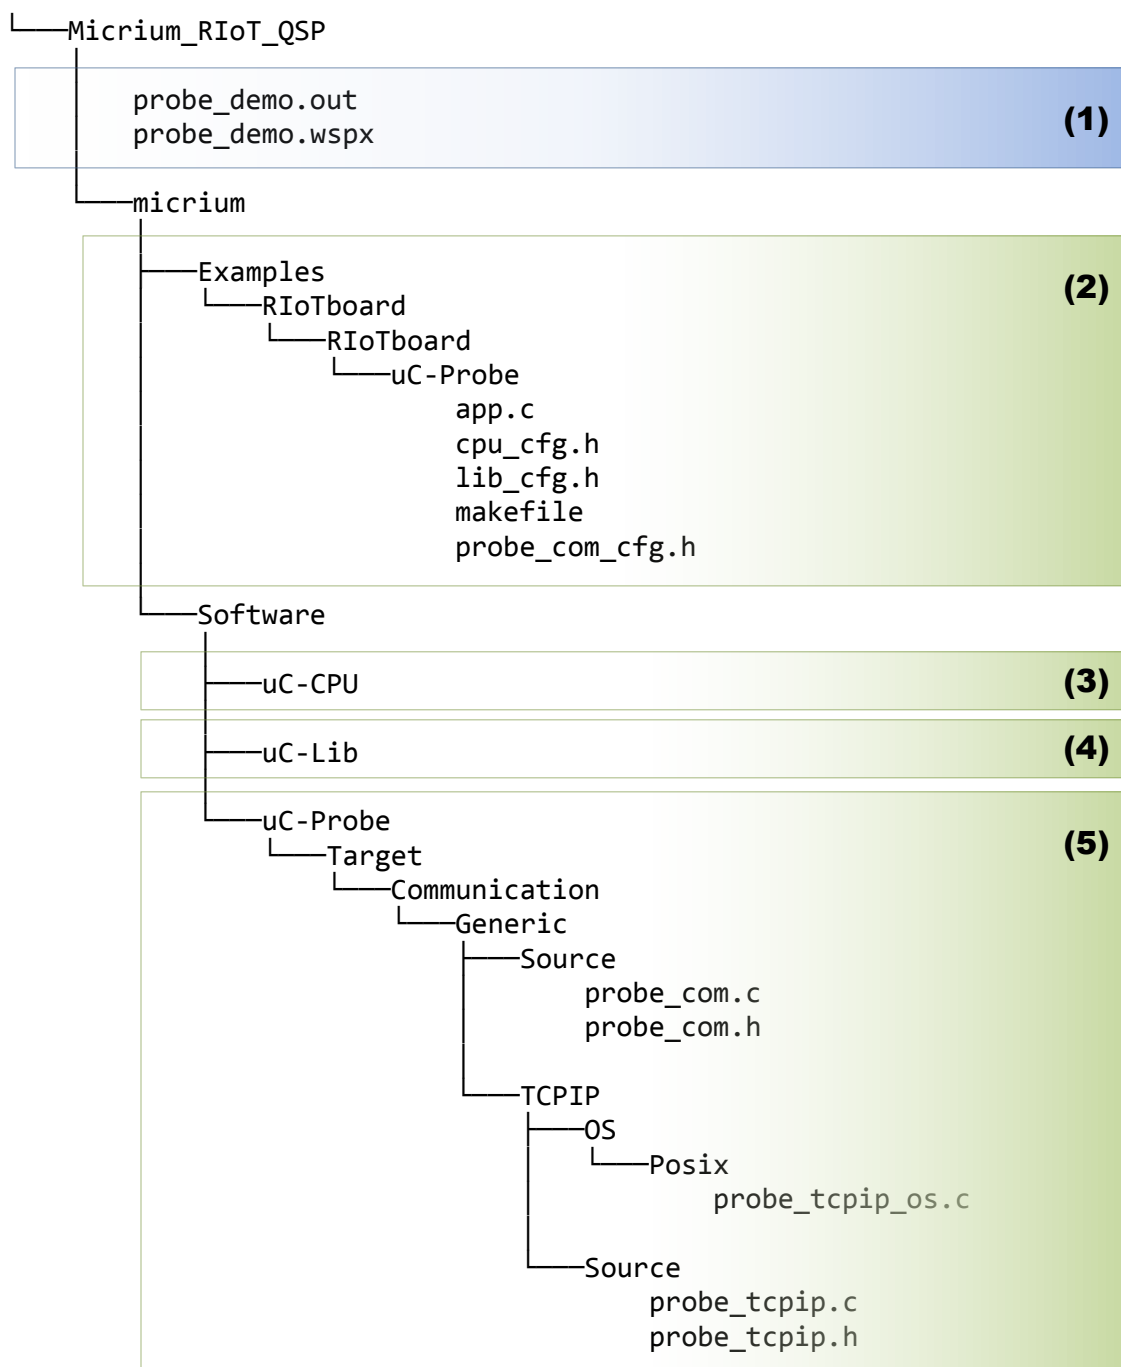

Figure 3-4: Micrium Quick Start Package Directory Structure
The contents of this zip file are illustrated in Figure 3-4, where the files surrounded by the *Blue* box are meant to be used in the host Windows PC, while the files surrounded by the *Green* boxes are meant to be used in the Linux side of the system (i.e. RIoTboard's file system).
For discussion purposes, we can separate the directory structure in 5 different categories as indicated in Figure 3-4.
The annotations at the bottom of Figure 3-4 will describe each group of files.
Figure 3-4(1): These files are meant to be used on the Windows PC side of the system by µC/Probe. They are the input files to µC/Probe and can be described as follows:
Figure 3-4(2): This folder contains the files that implement and make the example. The file ***app.c*** is the application-level example that demonstrates how easy it is to include a µC/Probe interface in your embedded Linux C project. The files with the suffix ***_cfg*** are for configuration purposes.
Figure 3-4(3): The µC/CPU module consists of files that encapsulate common CPU-specific functionality and CPU compiler-specific data types. Although there is no need to get familiar or edit any of these files they are still required to build the example.
Figure 3-4(4): The µC/Lib module consists of library functions meant to be highly portable and not tied to any specific compiler. It contains the source code of the functions used to manipulate ASCII strings, perform memory copies, and more. Similar to the µC/CPU files previously described, there is no need to get familiar or edit any of these files but, they are still required to build the example.
Figure 3-4(5): The µC/Probe-Target module implements the communication protocol on the embedded target (i.e. RIoTboard) to respond to the requests from µC/Probe running on the Windows PC. There is no need to get familiar or edit any of these files.
Extract the files indicated by the blue box in Figure 3-4(1) to any folder in your Windows PC.
Now, in regards to the files indicated by the green boxes in Figure 3-4(2-5), there are multiple ways to transfer them to your RIoTboard's file system. Here are some ideas:
You can extract from the zip file the entire **/micrium** folder indicated by the green boxes in Figure 3-4(2-5), and copy it to your **Home** directory as shown below:
Open a terminal console to the RIoTboard, change your working directory to the one where you installed the **/micrium** folder in the previous step and to the subfolder shown in Figure 3-4(2) where the **makefile** is located.
Similar to the previous step, open a terminal console to the RIoTboard, change your working directory to the one shown in Figure 3-4(2) where the **makefile** is located and enter the following command at the prompt:
Open µC/Probe on the Windows PC and click **File -> Open** to open the workspace file **probe_demo.wsp** located in the folder illustrated in Figure 3-4(1).
If you have modified the original demo by editing the file **app.c** illustrated in Figure 3-4(2), then the memory addresses of your global variables have most likely changed and you will need to update the **Symbols Browser** in µC/Probe.